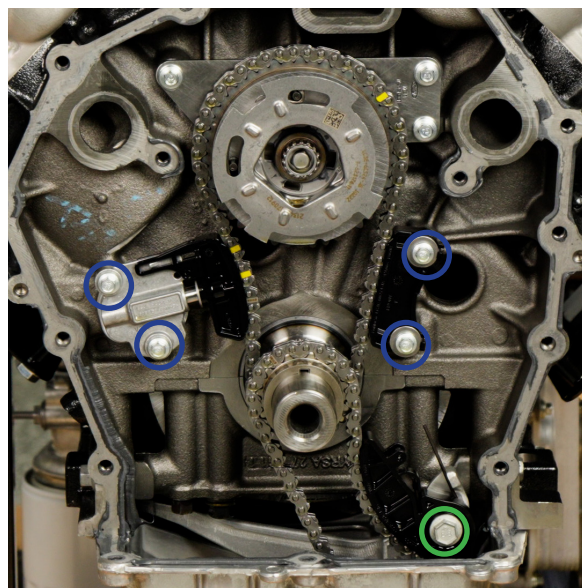

Fig. 2
- 5. Use 13mm Box Wrench to remove oil pump chain tensioner (Fig 2. - Green)**
- 6. Use 8mm Socket to remove timing chain tensioner and timing chain guide (Fig. 2 - Blue)**